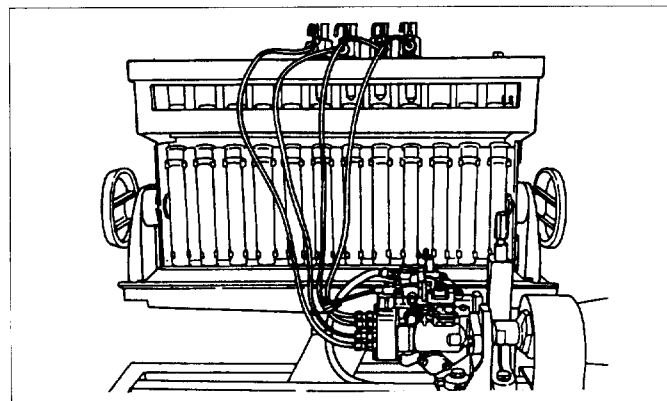

Fig.15-7 Connecting the high pressure line
(7) Connect the high pressure test lines. (See Fig.15-7)